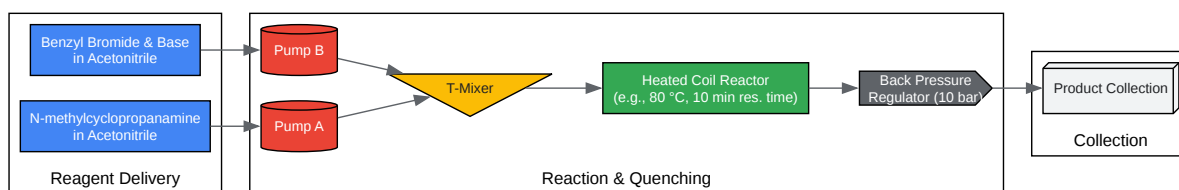

Figure 1: Proposed Continuous Flow N-Alkylation Workflow
- Assemble the flow reactor system as illustrated in Figure 1.